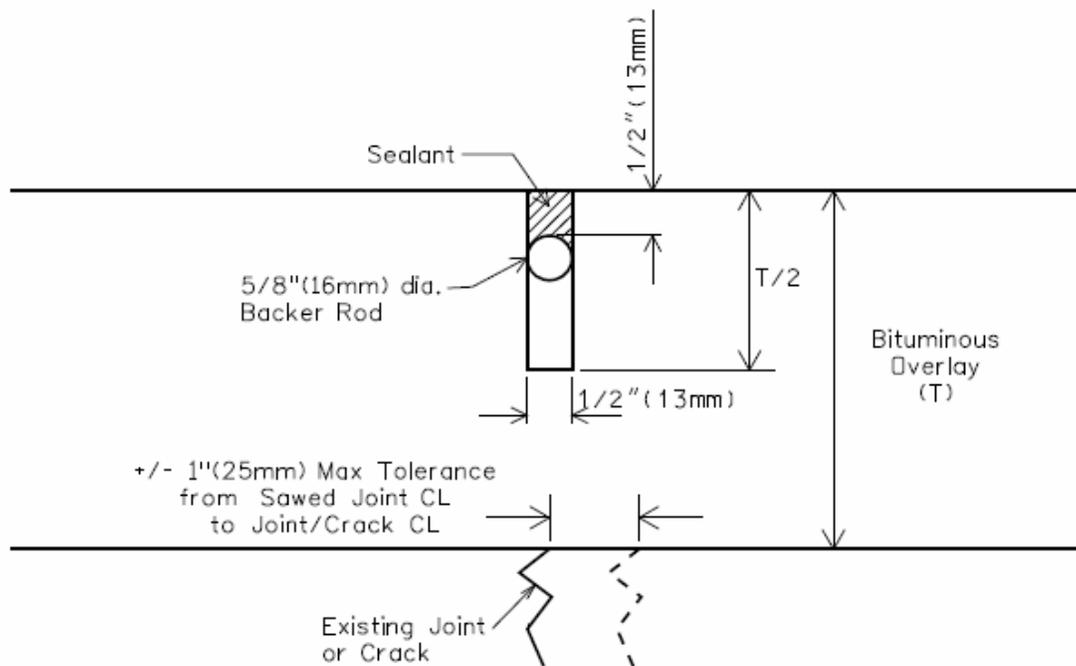

Figure 1. Full-depth, full-width saw cut
- (1) Locate existing joints/cracks accurately (before resurfacing) by pins or stakes, or other method approved by the Engineer.
- (2) Pre-mark saw cuts on the finished bituminous surface by chalk line or other method approved by the Engineer.
- (3) Saw joints directly above the joint/crack in the existing pavement. Saw cuts must be within 1 inch (25 mm) horizontally from the joint/crack below.
- (4) Saw joints dry or wet, and obtain the full depth and width of the saw cut in one single pass. Saw cuts may be made full-depth, full-width or as a narrower deep saw cut with wider reservoir above.
- (5) Saw transverse joints the entire lane width plus an additional 12 inch (300 mm) into each shoulder.
- (6) Configure the joint as shown in Figures 1 or 2: